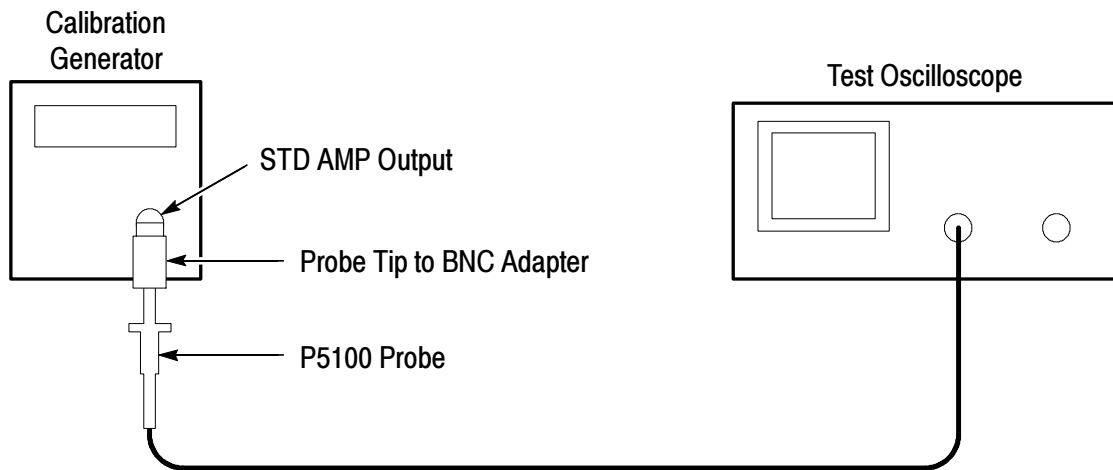

Figure 4: Gain Adjustment Setup
2. Connect the probe to the unterminated **STD** output of the calibration generator using the optional probe tip to BNC adapter. See Figure 4.